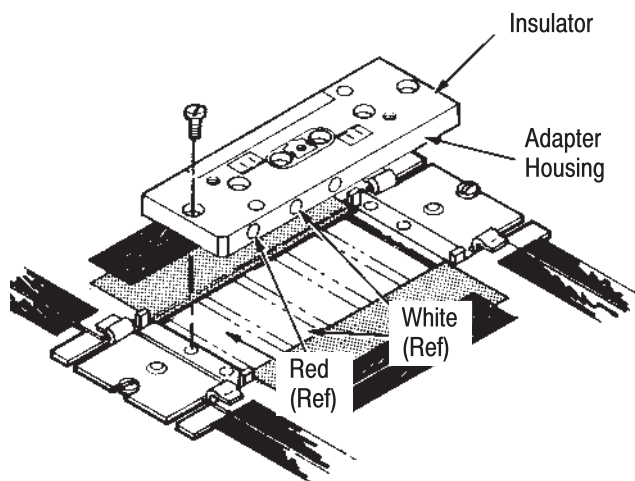

Figure 6
13. Start outer screws (2) through adapter and into mounting plate. Do NOT tighten. See Figure 6.
14. Place center screws (4) into position. Place screwdriver on each screw and tap with hand to punch screw through cable. All screws must be installed and tightened to 23 N•m [20 in. lb].